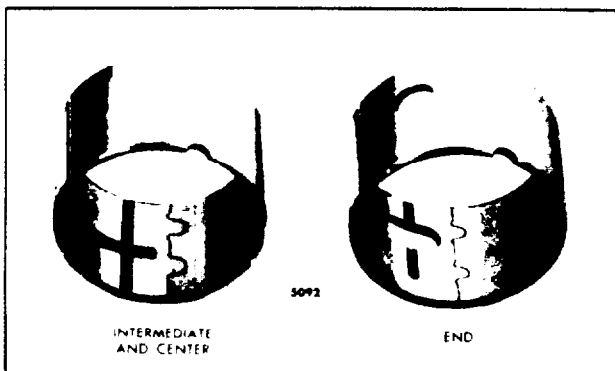

Fig. 5 Camshaft and Balance Shaft Bearing Identification
**NOTE:** Current bearings incorporate lubrication grooves on the inner bearing surface (Fig. 5).